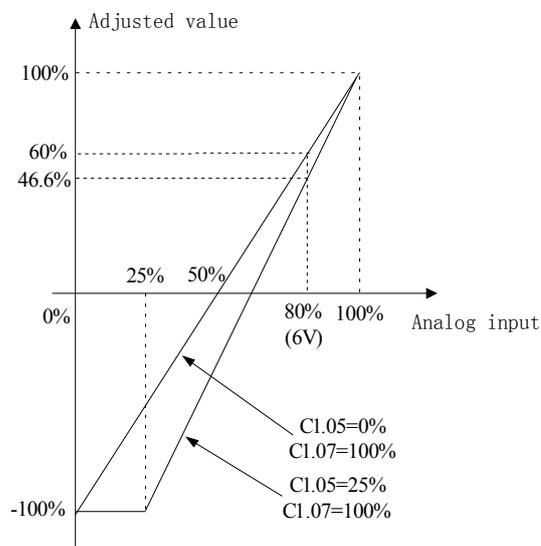

Fig.6-42 Regulation curve of reference
The regulation relationship between C1.05, C1.07 and reference is shown in Fig.6-42. When the analog input 6V, if C1.05=0% and C1.07=100%, then adjusted value is 60%. If C1.05=25% and C1.07=100%, then the adjusted value is 46.6%.
1. Fig.6-42,0% ~ 100% in X axis is corresponding to analog input - 10V ~ 10V,10V of analog input is corresponding to 100%,and - 10V is corresponding to 0%,6V is corresponding to 80%.